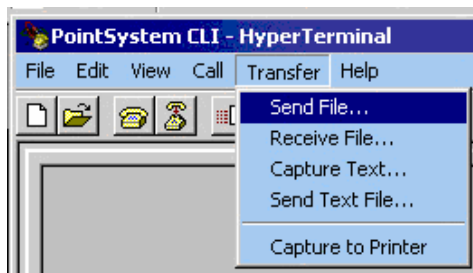

Figure 39: Point System CLI HyperTerminal
4.	The “XMODEM DOWNLOAD” phase is activated by initiating a “Send” or “Upload” command from the terminal emulator to send the new firmware to the Management Module. In this example, a “Send” command is initiated by selecting [Transfer] [Send File] as shown in Figure 39.